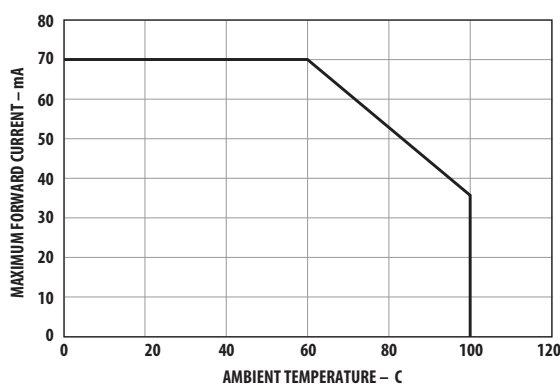

Figure 4. Maximum forward current vs. ambient temperature.
- Derate linearly as shown in figure 4.